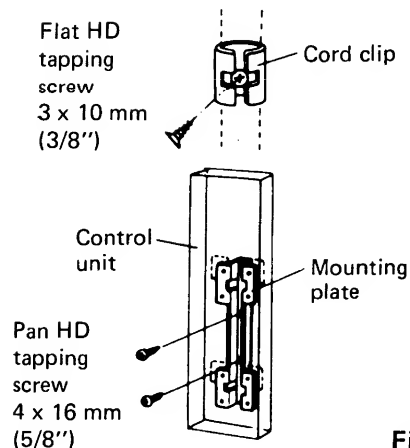

Fig. 20
- Fix the mounting plate on the wall with 2 screws, align the rail on the rear of the control unit and slide the unit down as far as it will go. Fig. 20